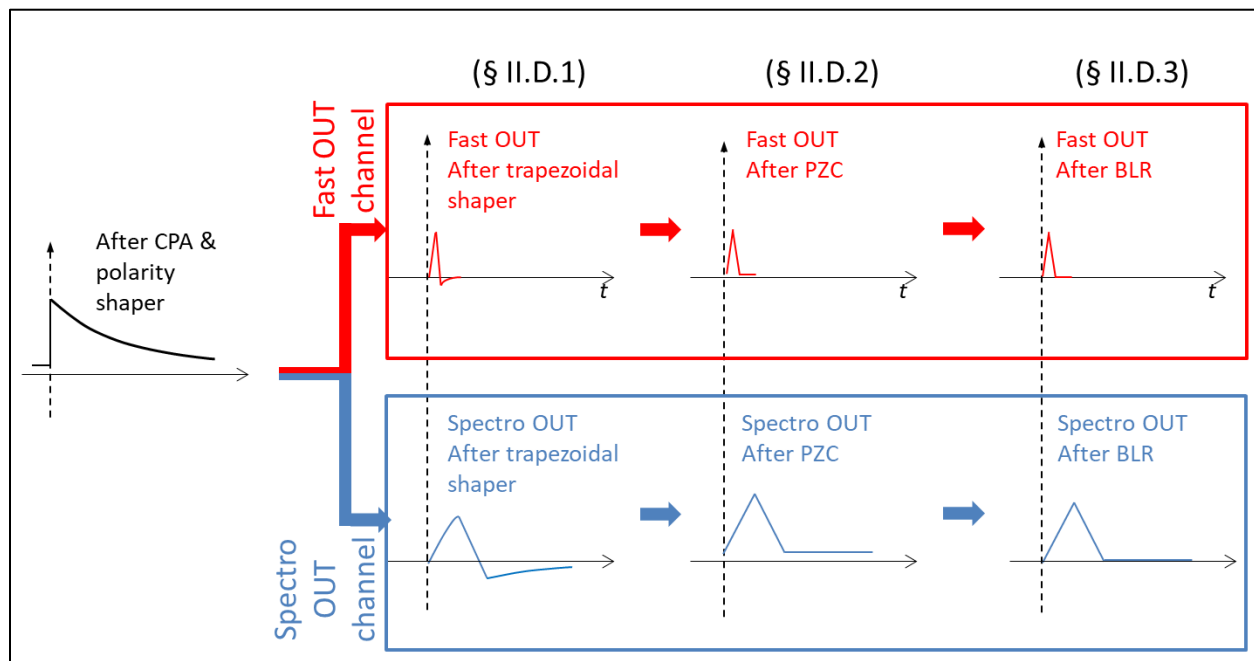
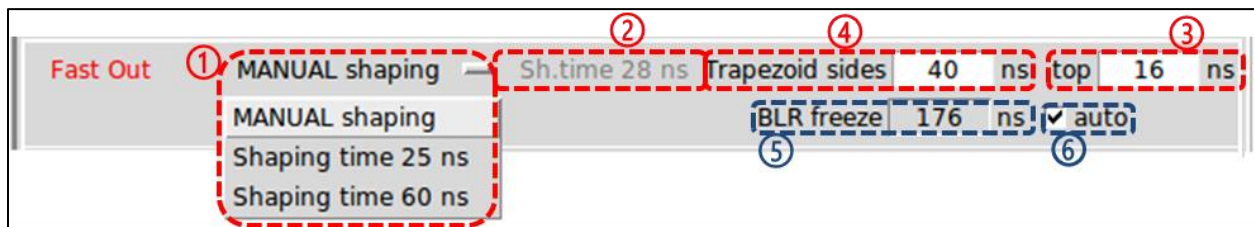
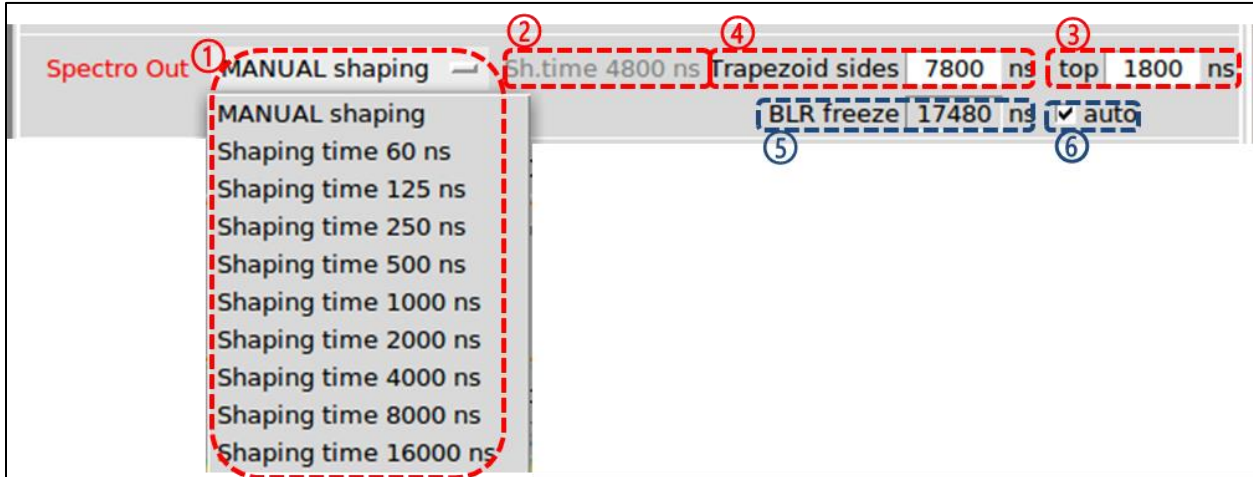
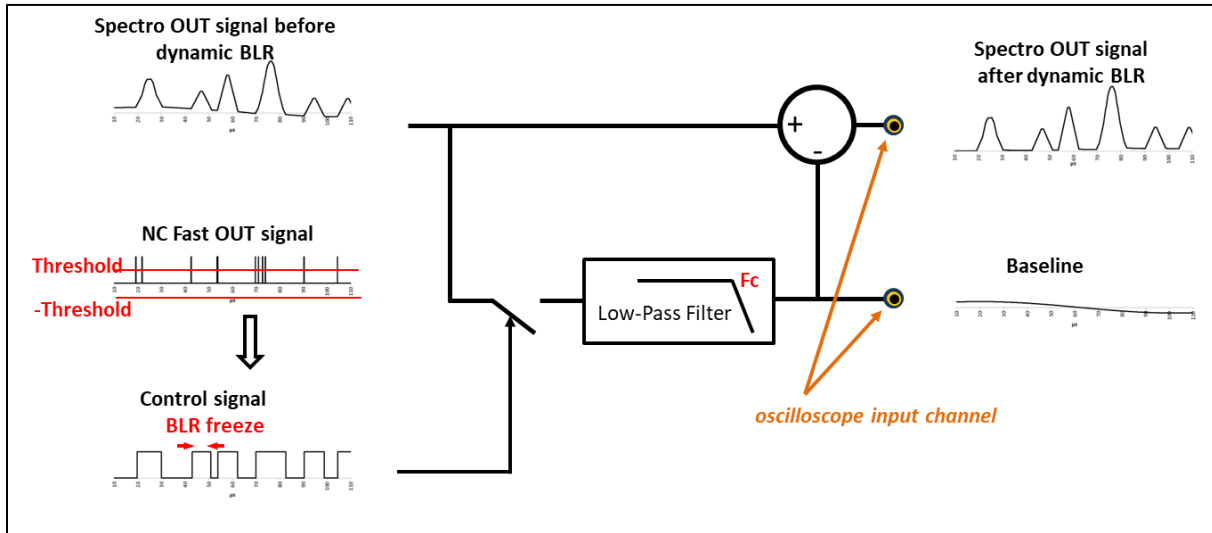

Figure 19: shaping module. It contains a trapezoidal shaper, a PZC module and a BLR module for each channel Spectro OUT or Fast OUT.
Figure 22: FAST OUT Shaper module / expert mode
Figure 25: Spectro OUT Shaper module / expert mode
Figure 31: BLR concept
The Shaping module role is to make the Spectro OUT and Fast OUT trapezoidal signal, with a zero baseline. As explained in chapter I and Figure 19, it includes a trapezoidal filter, a pole-zero compensation module, and a baseline restorer for each channel Spectro OUT or Fast OUT.
In the expert mode, the user has a complete freedom in choosing the rising edge duration in ④ (Figure 22), and the flat top duration ③, if he selects “MANUAL shaping” in ①. The associated shaping time is given in ② for information. Nevertheless, the Fast OUT trapezoid durations must check the following inequality:
In the expert mode, the user has a complete freedom in choosing the rising edge duration in ④ (Figure 25), and the flat top duration ③, if he selects “MANUAL shaping” in ①. The associated shaping time is given in ② for information. Nevertheless, the OUT trapezoid durations must check the following inequality:
The role of the BLR module is to put the baseline at 0 mV. There are two BLR modules. The first one operates on Spectro OUT signal after PZC module, and the second one on Fast OUT signal after PZC module, as shown on Figure 19. The user can choose between two kinds of baseline restorer: a constant one and a dynamic one.
Figure 31 explains the dynamic BLR concept. The dynamic BLR filter follows the slow variations of the baseline as long as it does not detect an event. If it detects one, it maintains the last constant level during all the event duration. The resulting signal is therefore the baseline, which is then subtracted from the input signal.
The BLR module has its own trigger, which must be properly adjusted. It uses the Fast OUT signal not compensated by the PZC module (that means “Fast OUT After trapezoidal shaper” on Figure 19) to detect the arrival of a physical event, whose amplitude is not included in the interval $[-\text{Threshold}; +\text{Threshold}]$. The tracking is then inhibited, i.e. the last baseline level is “frozen” during the “BLR freeze” duration (see Figure 31). Therefore “BLR freeze” duration depends on the signal on which the BLR module operate (Fast OUT or Spectro OUT) “BLR freeze” duration is at least equal to the base duration of the Spectro OUT or Fast OUT trapezoid. **In basic mode and expert mode**, the both durations are calculated for the experimenter, and equal to the trapezoid duration plus 80 ns. But **in the expert mode**, the user can modify “BLR freeze” values duration (Figure 22 ⑤ and Figure 25 ⑤), by unchecking “auto” button (Figure 22 ⑥ and Figure 25 ⑥).